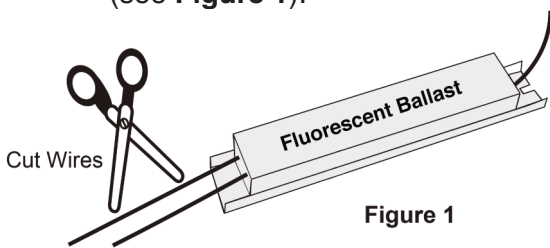

Figure 1
**Step 6:** Cut the line and neutral wires at the ballast, as well as all remaining wires at the ballast (see **Figure 1**).